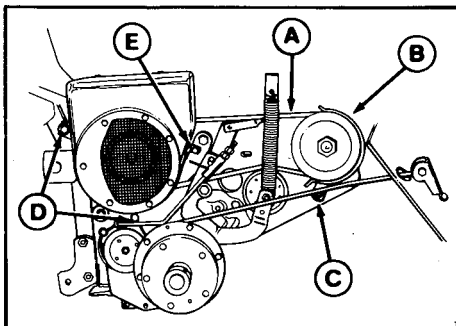

Figure 27. Drive Belt Replacement-Hydrostatic
3. Remove the capscrew (C, figure 27) and remove the belt guard assembly (B).